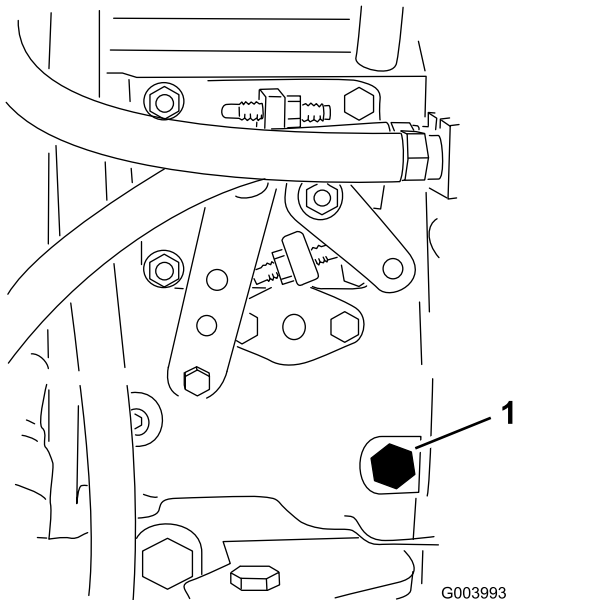

Figure 31
3. Open the air-bleed screw on the fuel-injection pump (Figure 31) with a 12 mm wrench.